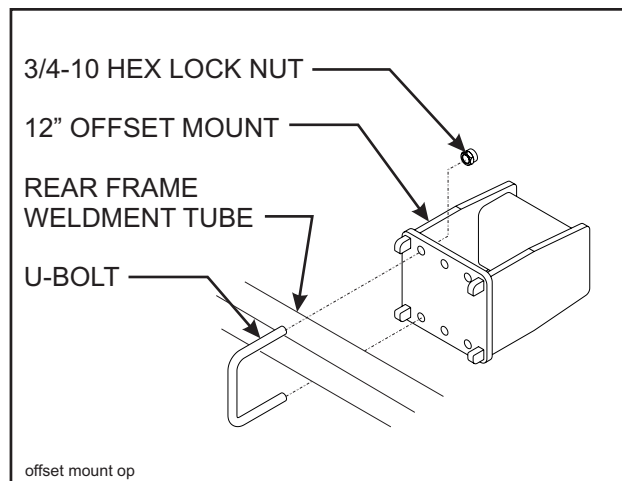

Figure 3-13 Offset Shank Mount Installation
- 3-13.1** If offset shank mounts are used, bolt to the rear frame using u-bolts, and 3/4-10 hex lock nuts (**See Figure 3-13**).